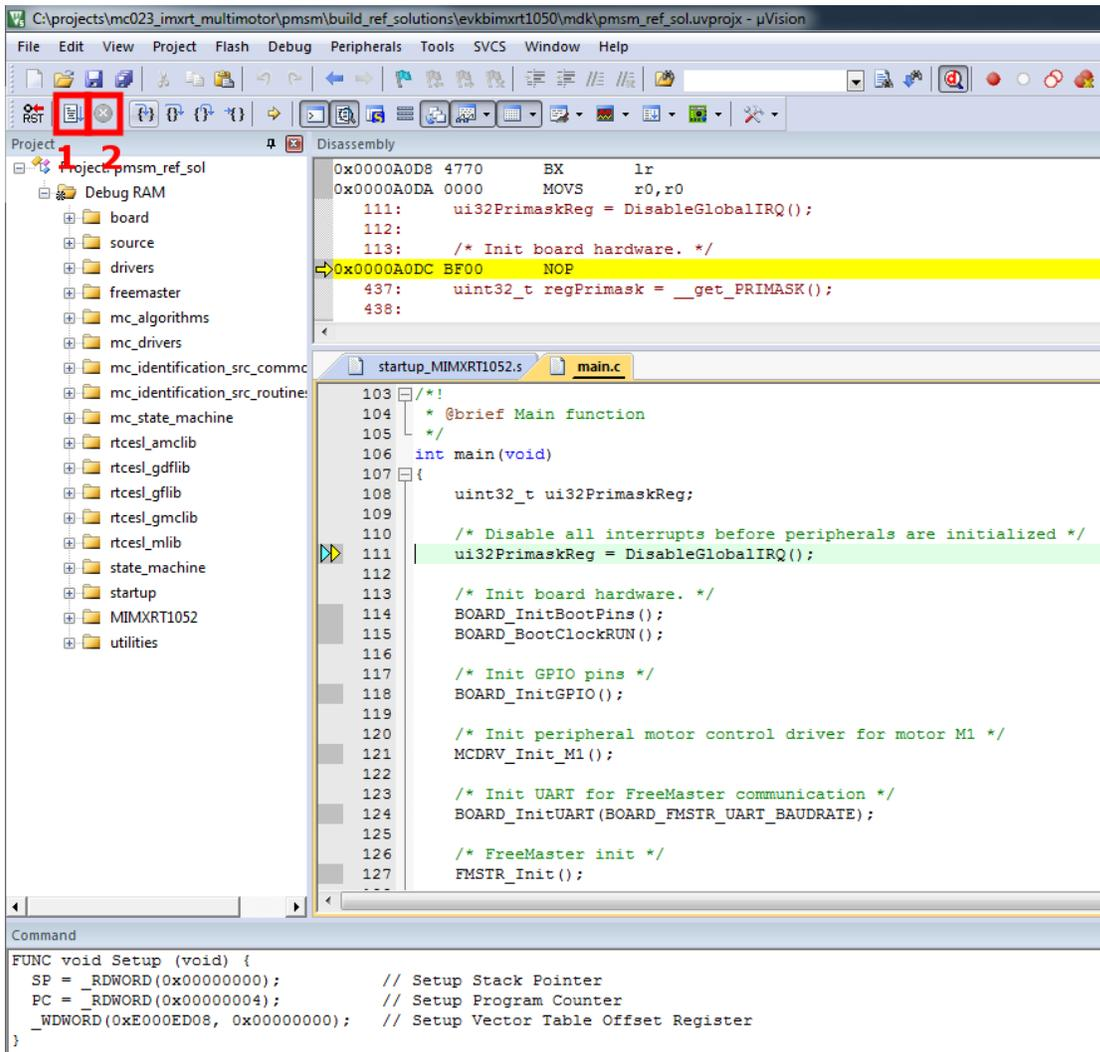

Figure 17. Keil debug workspace
5. As shown in Figure 17, the layout is switched to the debugging mode.
- To run the application, press the “Run” button (Point 1 in Figure 17).
- To pause the running application, press the “Pause” button (Point 2 in Figure 17).
6. As shown in Figure 17, the layout switches to the debugging mode. The debugger does not perform reset; it just connects to the running target.